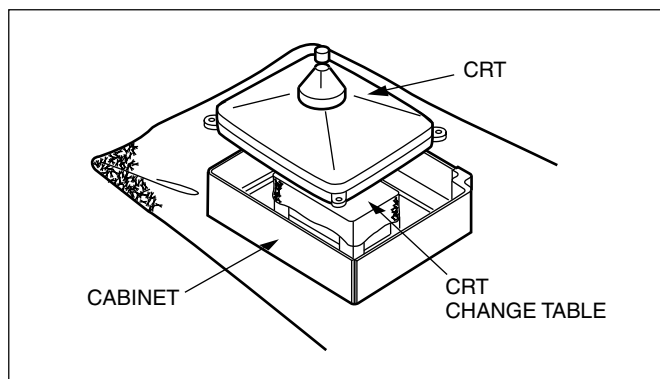

Fig. 4
- 4. After 4 screws have been removed, put the cabinet slowly on cloth (At this time, be carefully so as not to damage the front surface of the cabinet) shown in Fig. 4.